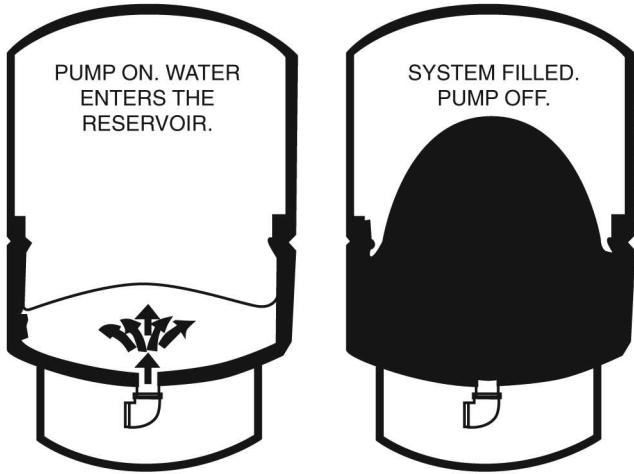

Fig. 23-5 Bladder operation.
- In a precharged tank system, none of the fittings for air introduction or air level control are required (see Fig. 23-5). The piping in the well is also different for the two systems. The precharged tank system does not require a bleeder orifice assembly, which simplifies the installation.
tion by starting when the pressure drops to the switch cut-in setting and stops when the pressure reaches the switch cutout setting. The pressure switch must be installed as close to the tank as possible (Figs. 23-5 through 23-7).
pressure-relief valve, check valve, gate valves, and unions as shown in Figs. 23-5 and 23-6.